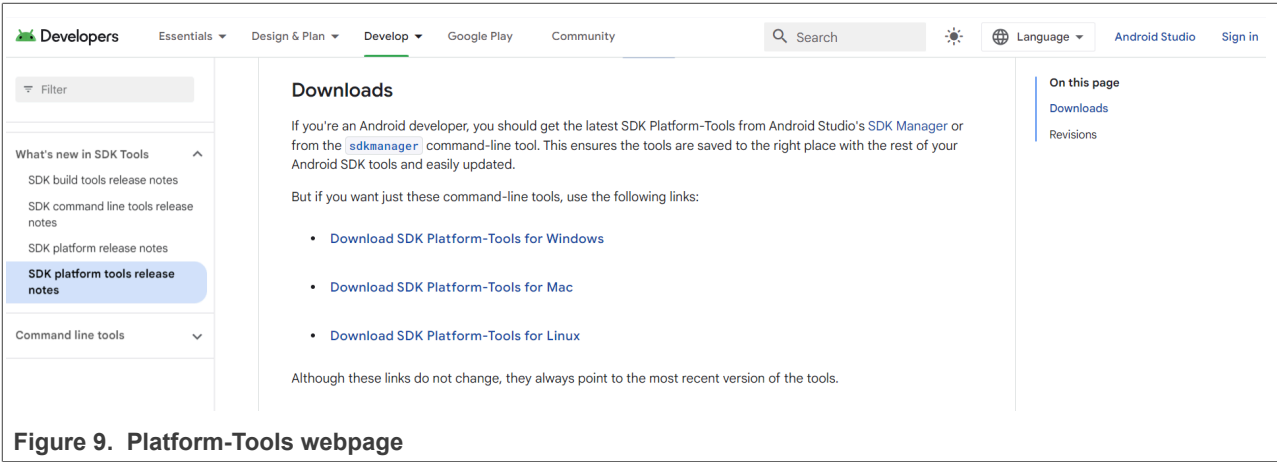

Figure 9. Platform-Tools webpage
1. Download platform-tools from [5] (see Figure 9).